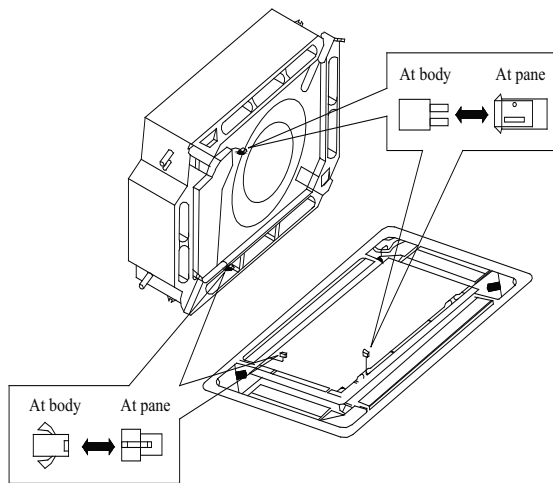

Fig. 71 - Connect joints
- (3.) Wiring of the decoration panel (Fig.71). Connect the joints for the swing flap motor lead wire (at 2 places) onto the panel.